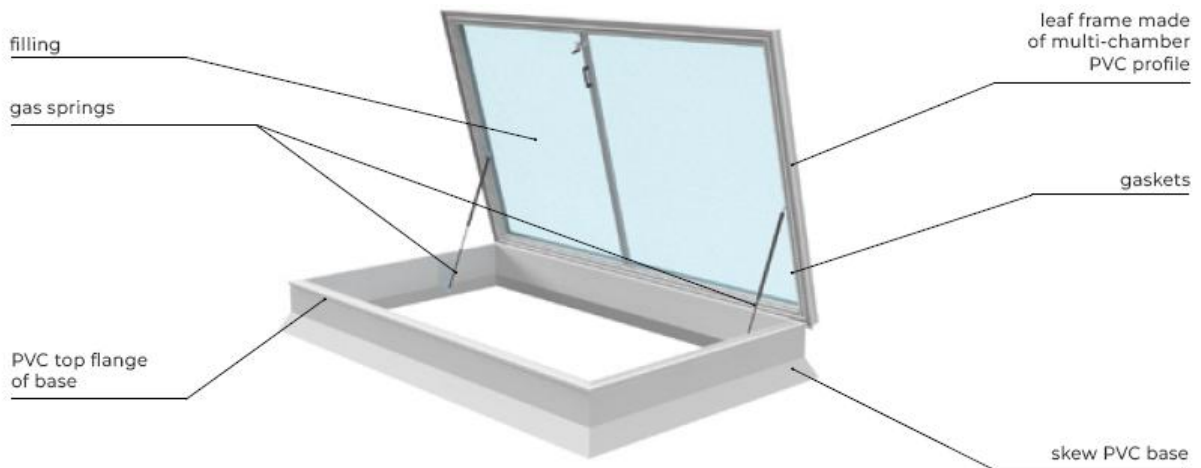
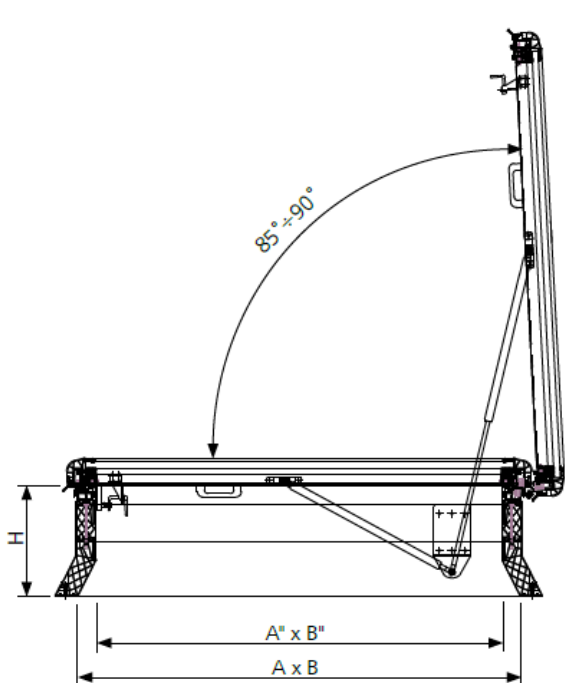
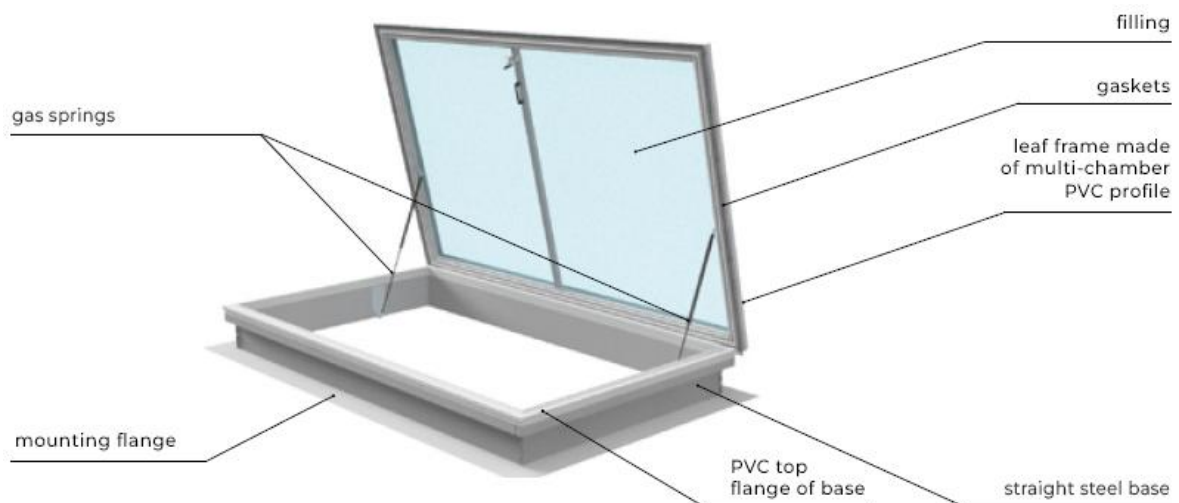

Fig. 11. Roof hatch of mcr ULTRA THERM type with skew PVC base.
Fig. 13. Cross-section trough roof hatch of mcr ULTRA THERM type with straight steel base
Fig. 14. Roof hatch of mcr ULTRA THERM type with straight steel base.
- with PVC base → see Fig. 11, Fig. 13,
- with metal base* → see Fig. 13, Fig. 14.